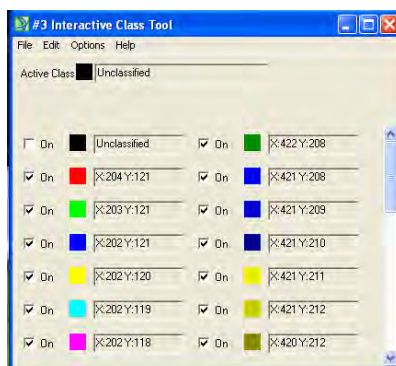

Figure 34. View of the Overlay Image
2. The Interactive Class Tool window appears (see Figure 34)